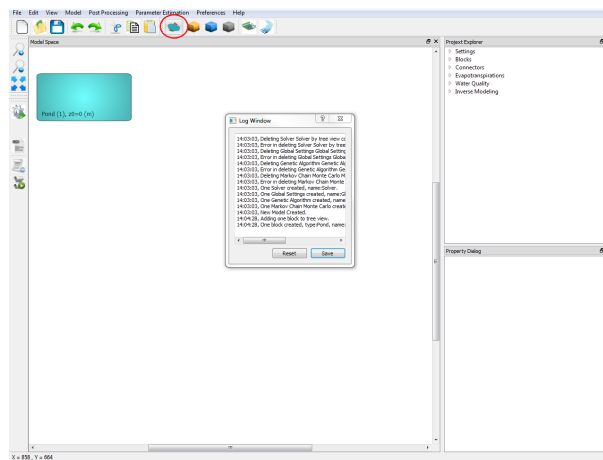

Figure 2.3: Adding a pond
3. **Add a pond to the model:** Add a pond by clicking on the pond icon  on the top toolbox (Figure 2.3).
- From the **Properties** window change the name of the object from the default "Pond (1)" to "Main Pond".